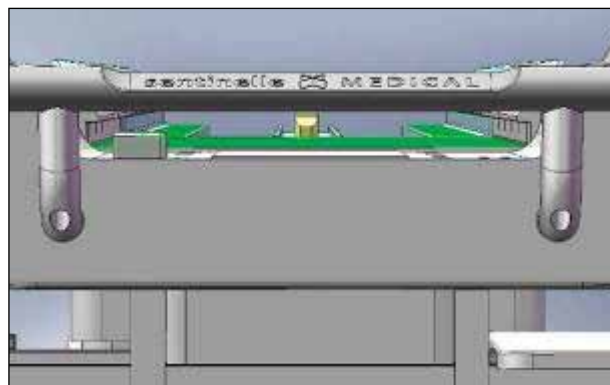

Figure 34
8. Once fine height adjustment has been performed, re-check the pitch of the stretcher relative to the scanner bridge by sighting along the stretcher into the bore from the head end (Figure 34). Perform fine adjustment as required while continually checking for co-planarity. A straight edge can be additionally used.